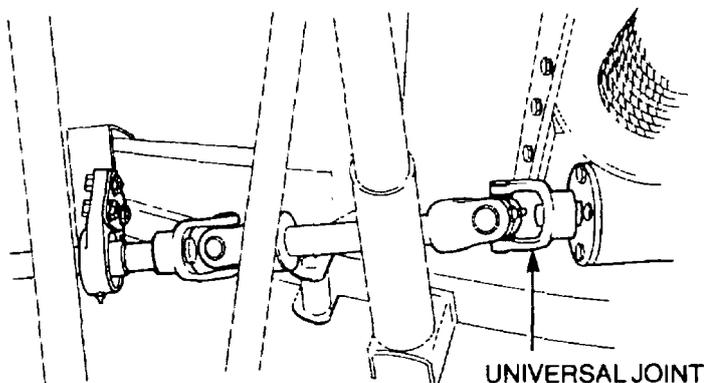

Figure 111 Winch Input Shaft Universal Joint Disconnection
- a. Remove the 3/8 in UNC Allen screw securing the winch drive line universal joint to the winch input shaft (Figure 111).